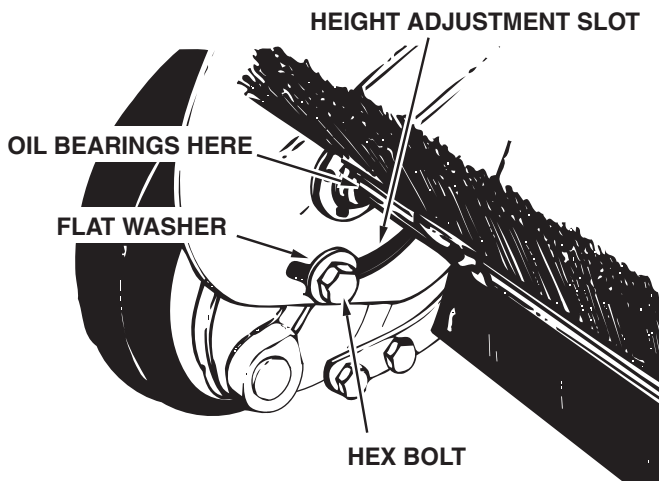

FIGURE 20
- Lubricate the brush shaft bearing twice a year with a few drops of light weight oil. See figure 20.